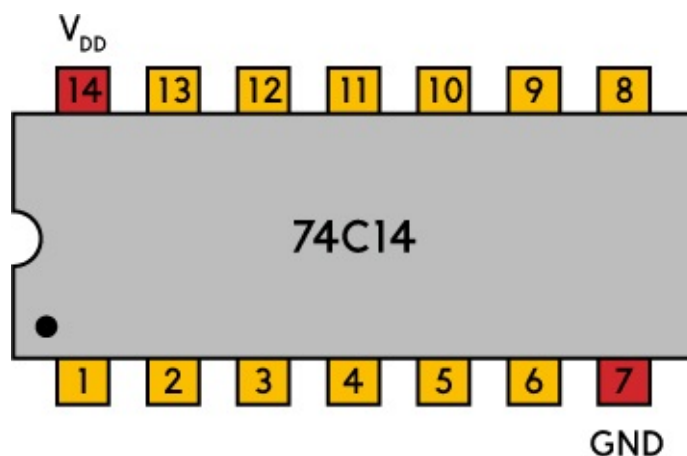

FIGURE 5-1 Pinout of the 74C14 Schmitt trigger inverter
The Schmitt trigger inverter comes as a 14-pin *integrated circuit (IC)*, a single chip with its own internal circuitry. The number next to each pin in the circuit diagram represents the pin number on the integrated circuit. Figure 5-1 shows how the pins are arranged on the 74C14 IC Schmitt trigger inverter.